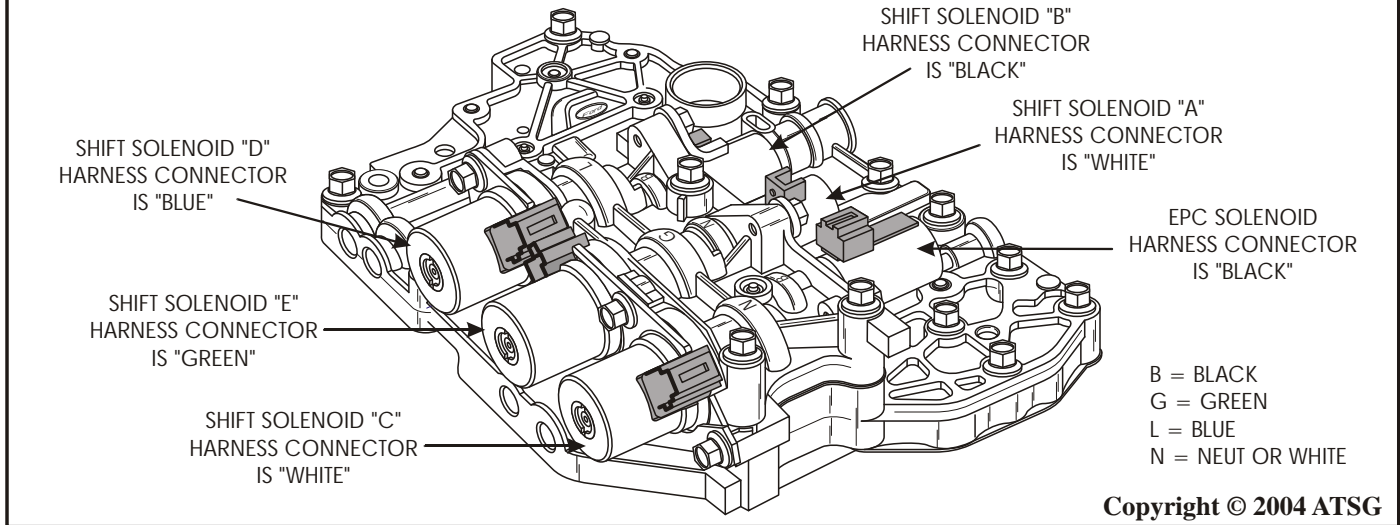

Figure 159
17. Install the individual solenoid internal harness connectors to their respective solenoids, as shown in Figure 159 and 161.
CAUTION: It is mandatory that the internal wire harness connectors be connected to the proper solenoids. Figure 159 provides you the internal harness connector colors that should be connected to the individual solenoids. The color of the connector that should be connected to that solenoid is also cast into the valve body, as shown in Figure 159.